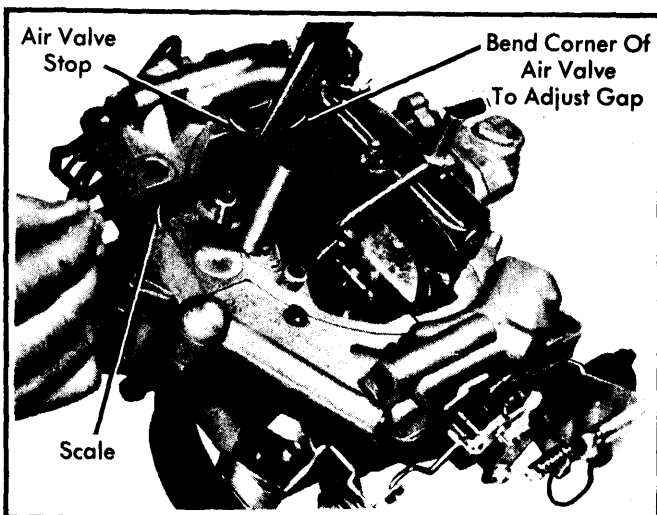

Fig. 4 Adjusting Air Valve Gap
- 1) Hold secondary air valve wide open. Measure specified gap between raised edge (short side) of air valve and air horn wall. See Fig. 4.